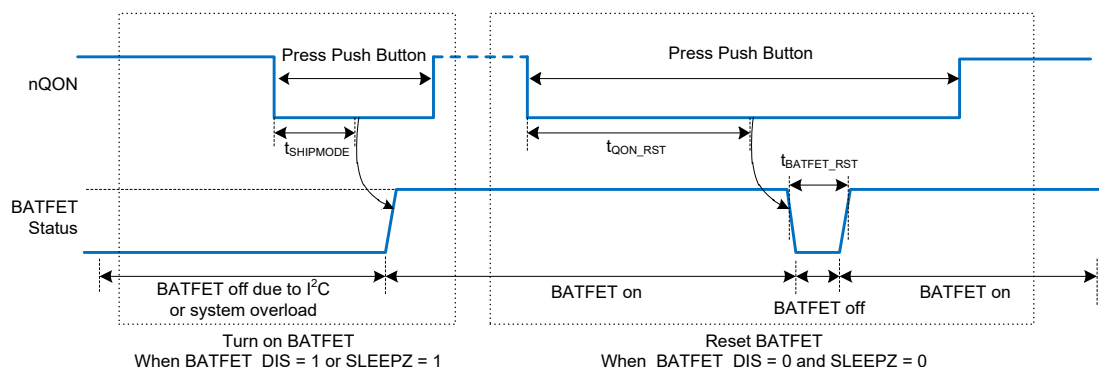

Figure 10. nQON Enable and Reset BATFET Timing
1. Enable BATFET: Applying an nQON logic high to low transition with longer than $t_{SHIPMODE}$ deglitch time (negative pulse) turns on BATFET to exit ship mode (Figure 10 left). HIZ is also enabled ($EN_HIZ = 1$) when exiting shipping mode. After exiting shipping mode, the host can disable HIZ ($EN_HIZ = 0$). OTG cannot be enabled ($OTG_CONFIG = 1$) until HIZ is disabled.
2. Reset BATFET: By applying a logic low for a duration of at least t_{QON_RST} to nQON pin while VBUS is not powered and BATFET is allowed to turn on ($BATFET_DIS$ bit = 0), the BATFET turns off for t_{BATFET_RST} and then it is re-enabled resulting in a system power-on reset (Figure 10 right). This function can be disabled by clearing $BATFET_RST_EN$ bit.